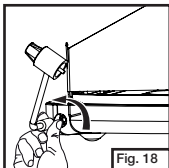

Fig. 18
- Remove regulator from stove. (Fig. 18)